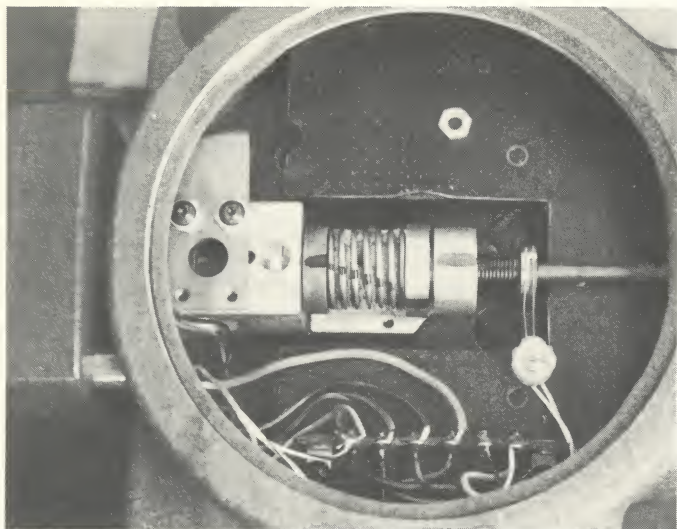

Figure 3
- 4) Put Camera-Sync on "Take" and push "Single Frame" button repeatedly. There should be a constant overshoot of 30° to 60° as shown in figures 3 and 4.